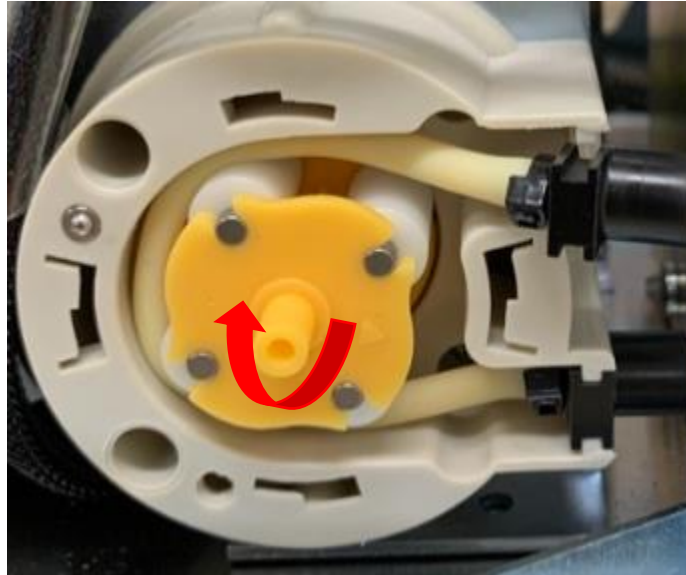

Figure 32
- 7.2. Replace the Primary pump tubing by first inserting the lower side of the primary pump, then inserting the grooves of the new tubing into the slot on the pump. Slowly work the tubing in the pump (rotate rotor by hand if needed). Once the tubing is in place, insert the grooves of the new tubing into the slot on the top side of the pump. See Figure 32 for correct placement.